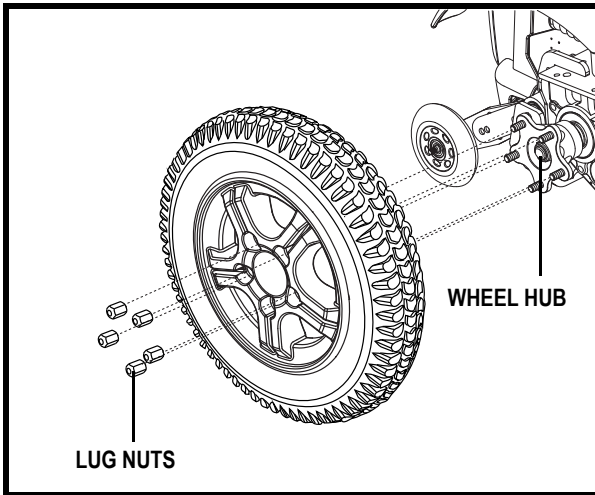

Figure 16. The Athena Drive Wheel
4. Remove the five (5) lug nuts from the wheel hub. See figure 16.